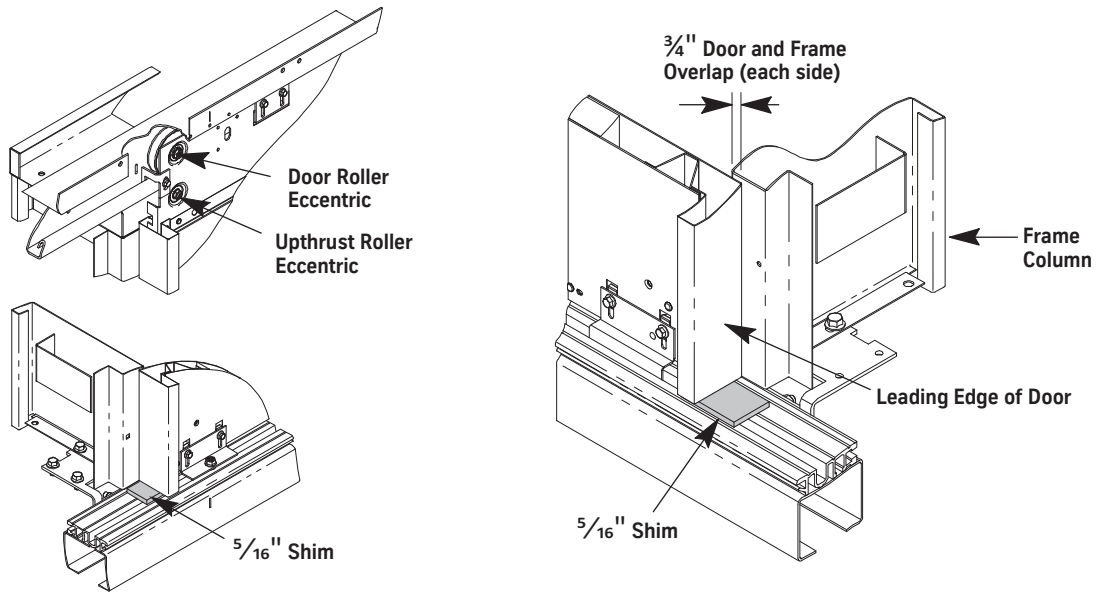

Figure 14 - Adjust Door-to-Sill Running Clearance
1. Place a 5/16" shim (running clearance) underneath the leading edge of the door. See Figure 14 on page 7-17.